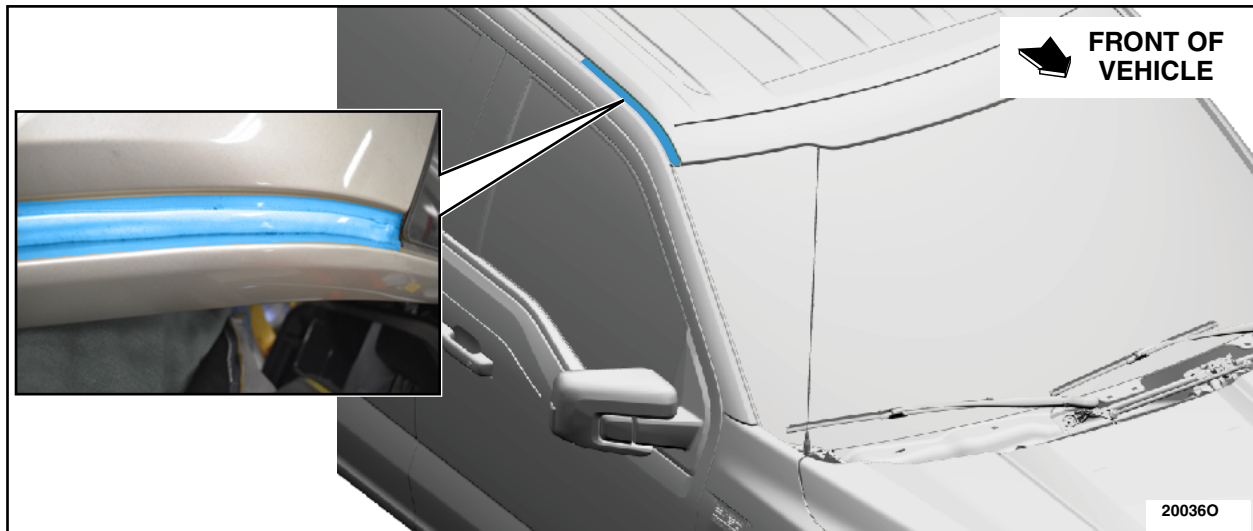

FIGURE 15
27. Using a garden hose, run water over the front RH roof ditch, immediately inspect the A-pillar inside the vehicle for signs of moisture and/or leakage. See Figure 15.